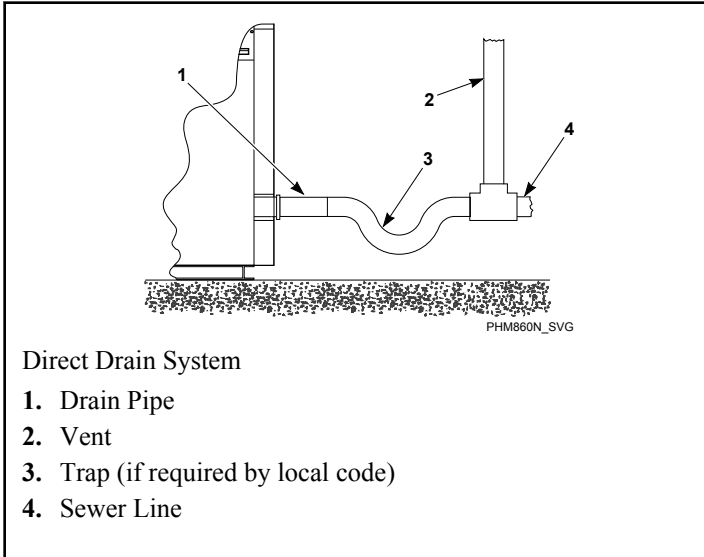

Figure 15
10. Following the manufacturer's instructions, mix a good quality **non-shrinking machinery precision grout**. The grout should not be too runny or too dry and should flow into place easily. Completely fill the space between the machine base and the floor with grout to ensure a stable installation. Grout completely under frame [if bolted with inside pattern, remove front panel and back panel to gain access to all frame members]. Refer to *Figure 15*. Force grout under machine base until all voids are filled.
Refer to *Figure 15*.